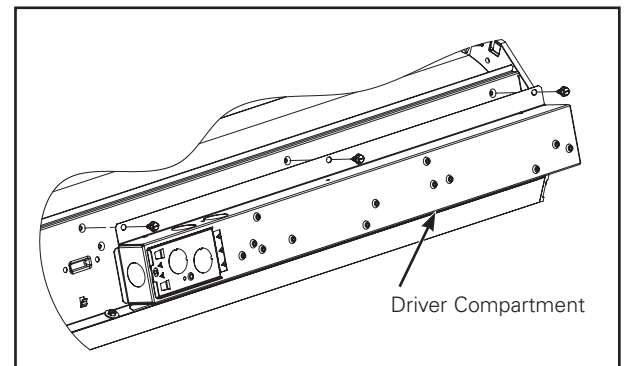

Figure 1.
1. Remove the driver compartment from the driver mount bracket in standard SkyRidge fixture (Figure 1).